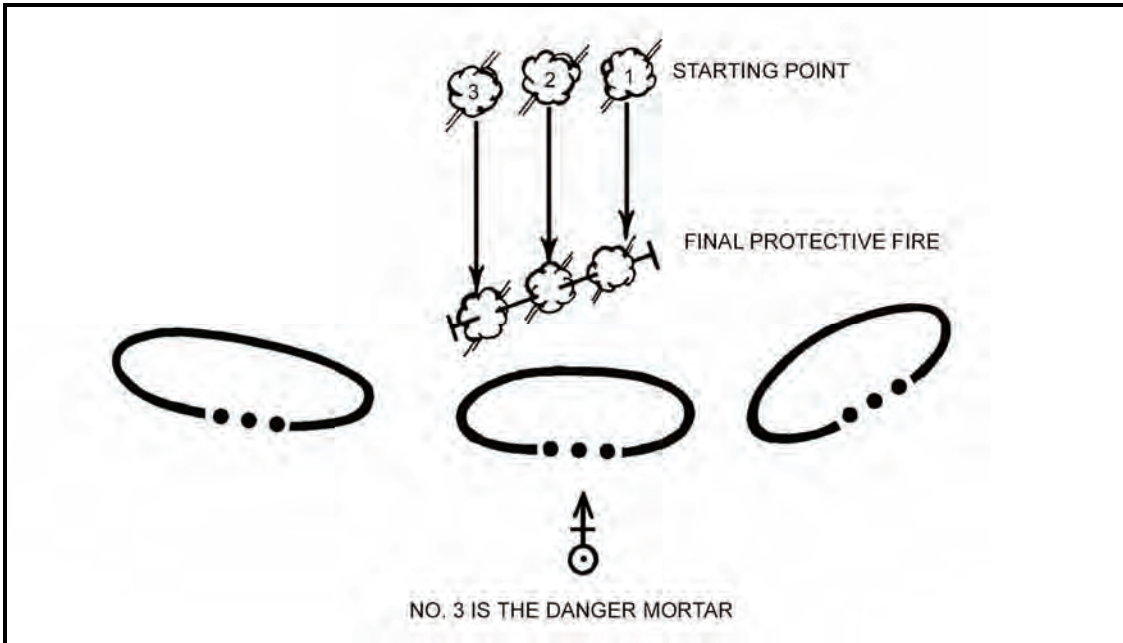

Figure 14-14. Determination of danger mortar.
- (1) Once the danger mortar is known, it is adjusted onto the FPF line (Figure 14-14).
- (2) Once the danger mortar has been adjusted, the next mortar (No. 2) is given the danger mortar data and fired. The firing of the same data should put the impact of the next mortar 40 meters left or right of the adjusted mortar.